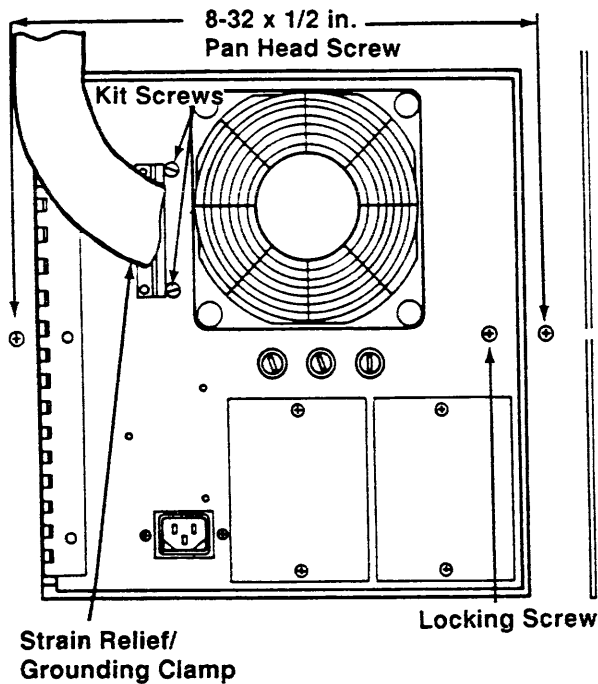
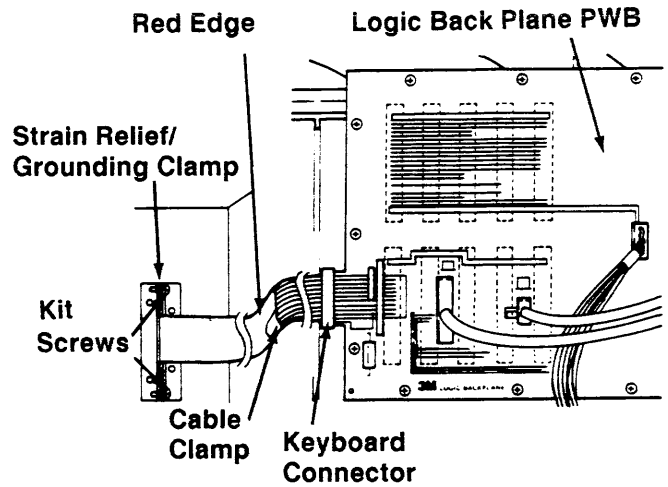

Figure 2-3.1E
Figure 2-3.1F
- Loosely install two 8-32 x 1/2 in. Pan Head Taptite Screws (Item 2) at the rear of the Workstation (Figure 2-3.1E).
14. Remove the Locking Screw securing the Rear Door of the Workstation and open the Rear Door (Figure 2-3.1E).
15. With the red edge of the keyboard cable up, feed the Edgcard Connector and harness through the slot in the Rear Door (Figure 2-3.1E).
16. Install the threaded half of the Strain Relief/Grounding Clamp (Item 26) on the inside of the Rear Door (Figure 2-3.1E) with the Kit Screws (Figure 2-3.1F).
17. Install the non-threaded half of the Strain Relief/Grounding Clamp on the threaded half installed in Step 14 using the Kit Screws (Figure 2-3.1F).
18. Position the exposed Copper Shield of the harness within the Strain Relief/Grounding Cable Clamp and tighten the screws (Figure 2-3.1F) installed in Step 15.
19. With the red edge of the cable up plug the Keyboard Harness Edgcard Connector into the left edge of the Logic Back Plane PWB (Figure 2-3.1F)
20. Install the Keyboard Harness in the Cable Clamp mounted on the right side of the Page Search Module (Figure 2-3.1F).